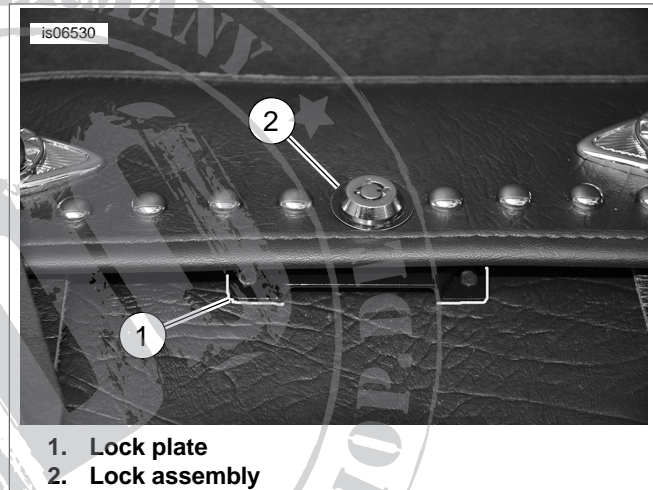

Figure 4. Positioning lock plate
12. See Figure 4. Place lock plate (1) in a horizontal position on outside of the saddlebag tub. Close the lid to center the lock plate with the lock assembly (2) with T-bar (not shown, under lid) in horizontal position and carefully lift lid and mark location of lock plate.